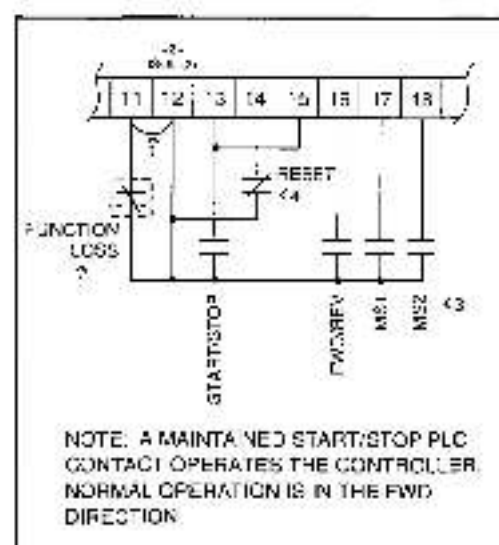

Figure 3-5. Typical Remote Control Wiring.
4. When required by code, the 24 VDC Start/Stop circuit can be grounded. Run a suitable grounding conductor **unbroken** from terminal 19 to the controller ground terminal. (See Figure 3-2 or 3-3 and Figure 3-5.)
5. Check that the controller is wired correctly. See Figure 3-2 (230 VAC controller, Local Control), Figure 3-3 (460 VAC and 575 VAC controllers, Local Control), Figure 3-4 (speed reference), and/or Figure 3-5 (Remote Control).